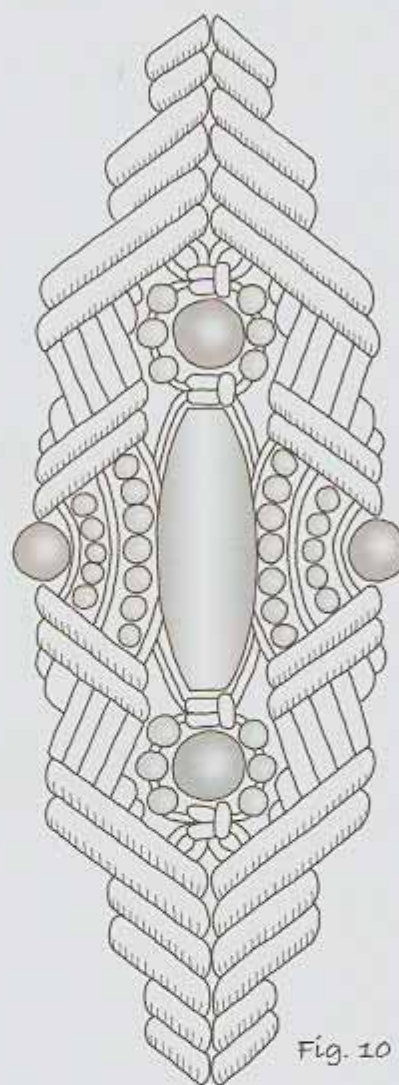
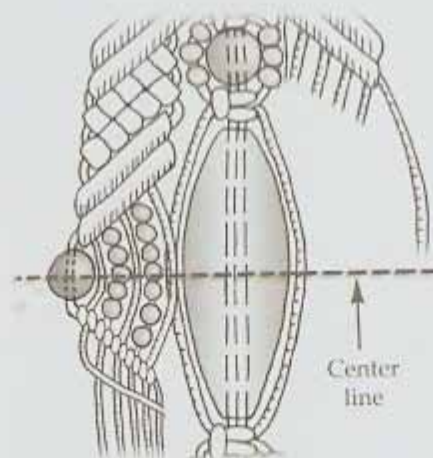

Fig. 10
Fig. 8
Note - If you don't have a 16 mm oval bead, you can use a slightly longer bead. However, you will have to adjust the pattern by adding more beads to each side section of the pin (see Figure 6). Another option is to "stack" several smaller beads together (Figure 3, Variation 2). Either way, the center point of the oval bead or the "stacked" beads has to be the exact center point of the pin. (see Figure 8).
24. Add a 4 mm bead to Cds #1 & 16. The center horizontal line or "equator" of these two 4 mm beads should line up exactly with the center horizontal line of the middle bead(s) (see Figure 8). If the middle bead strand length is too long, you can add beads above and below the 4 mm beads (see Figure 6B) to compensate. If your middle bead strand length is too short, lengthen the span by adding beads to the strand (see Figure 6A). The aim is to get the center line of the middle bead(s) and the center line of the side beads to line up, so add beads to either the center strand or the outside cords to make them even up (see Figure 10 for an overall picture of the finished pin).
26. Row 11 - Knot Cd #2 onto the **AC**. Add approx. 4 or 5 seed beads to Cd # 3 and knot it onto the **AC**. The curve of the beaded strand should echo the curve of the 4 mm bead and should not poof out too much. Add more or less beads if appropriate (see Figure 8).